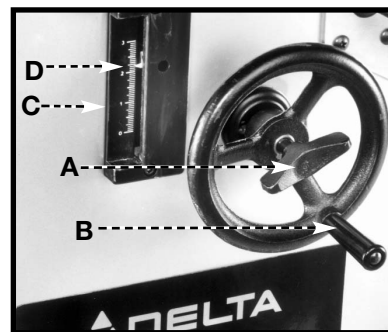

Fig. 21
The spindle can be raised or lowered by loosening the lock knob (A) Fig. 21 and turning the handwheel (B). To raise the spindle height, turn the handwheel (B) clockwise. To lower the spindle height, turn the handle (B) counterclockwise.
The scale (C) Fig. 21 indicates the spindle travel range from 0" to 3" and is marked in 1/16" increments. Minor cutter height adjustments can be measured using the pointer (D) along the scale (C).